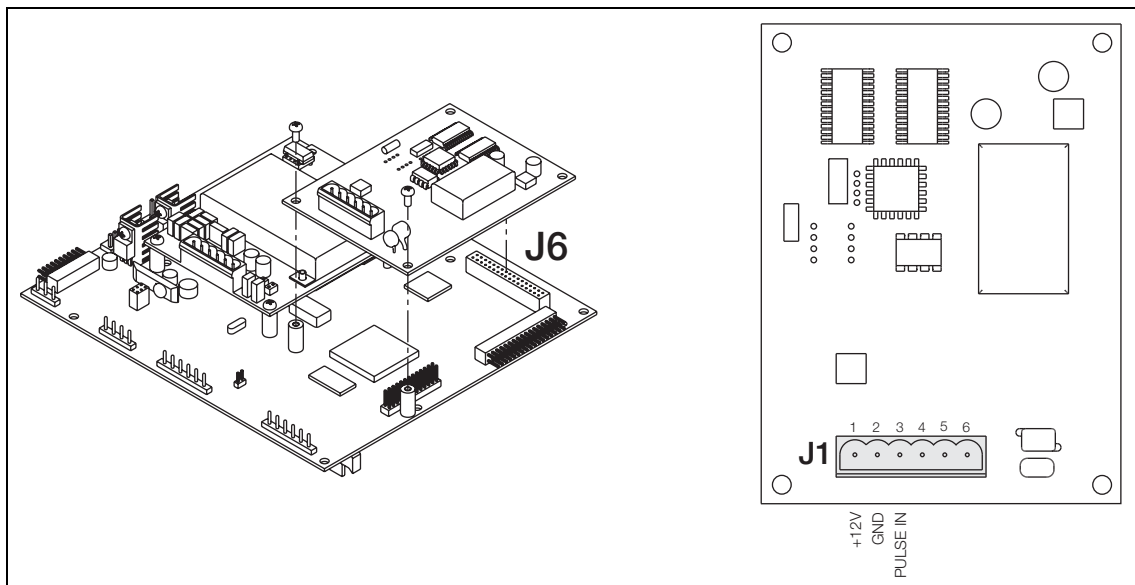

Figure 1. Pulse Input Card on CPU Board and Pulse Input Card
5. Use the screws and lock washers provided in the option kit to secure the other end of the option card to the threaded standoffs on the CPU board (see Figure 1).